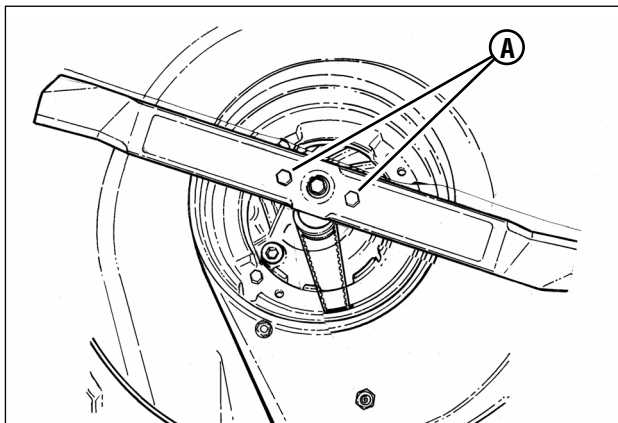

Figure 10: Tightening the blade cap screw
2. Tilt the mower up on its rear wheels for access to the blade cap screws (**A**, **Figure 10**). Do not tilt the mower with the spark plug or carburetor down.